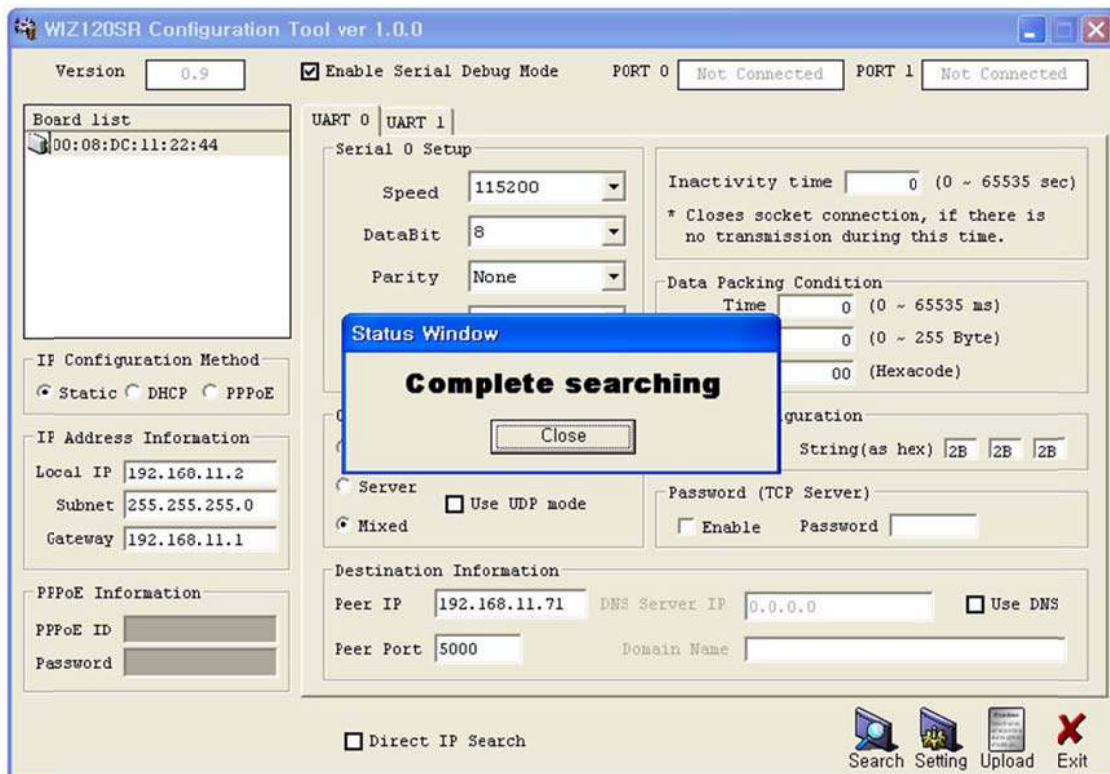

Figure 5. Board Search Window
- ① Run 'WIZ120SR Configuration Tool' program, and click the "Search" button.
- ② If the module is properly connected to the network, the "Searching Complete" message and the MAC address will be displayed on the "Board List" as shown in Figure.5.
- ③ Select a module shown in the "Board list", and click the "Upload" button.
- ⇒ Before uploading the firmware through Ethernet, you should set the network information of WIZ120SR first, by Configuration Tool program as shown above in Figure 5. By using Ping test, you can check whether your network is configured correctly or not.
- ④ When the window as shown in Figure 5 is displayed, select file to upload and click the "Open" button.